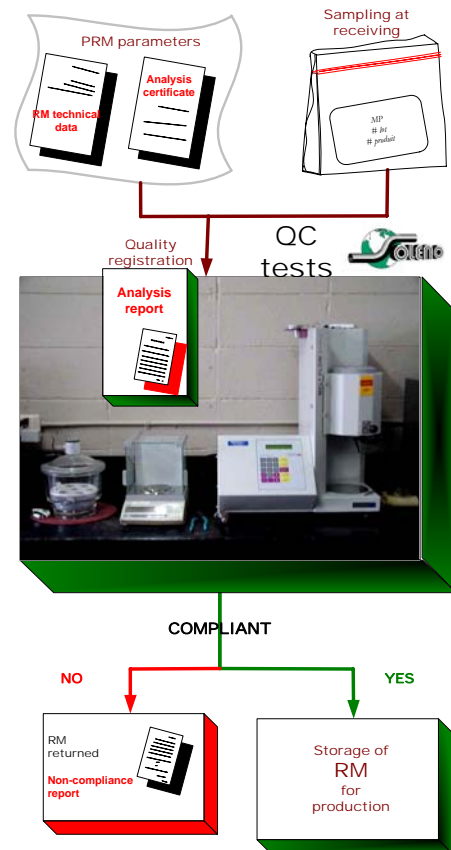

Figure 3.3: Control at receiving
Raw materials (RM) used in the manufacturing process are approved by our personnel in the operation group known as Production / Quality Assurance / Purchasing, based on the following criteria: technical record of the RM (classification by properties for **HDPE**), the criteria required by product standards, the reliability of the supplier and the manufacturing tests and Quality Control on the RM and, in the case of a **HDPE** resin, when transformed into the final product. If the RM meets the requirements, it can be incorporated into our procedure and be ordered. Figure 3.3 outlines these steps.